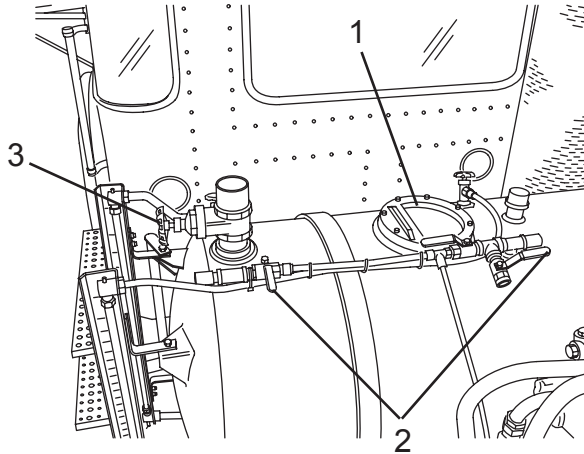

Figure 144
6. Check flopper valve (Figure 144, Item 1) for free movement, and make sure it seats properly.
7. Check valves (Figure 144, Items 2 and 3) to make sure they move freely.